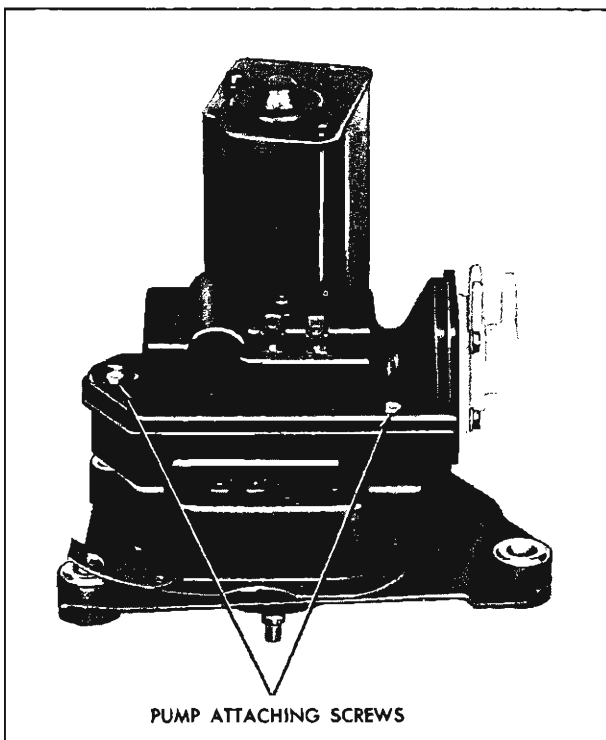

Fig. 58—Washer Pump Mounting Screws
1. For wipers equipped with a washer pump, remove the two washer pump mounting screws (fig. 58) and lift pump off washer.
2. Remove the two pump-to-wiper retaining screws, remove washer from wiper (fig. 58).